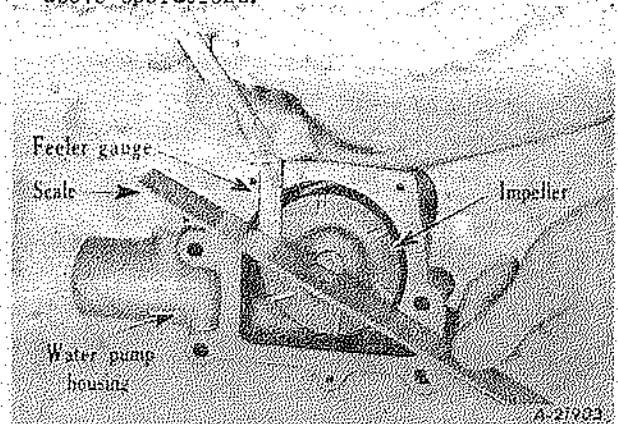

Fig. 32
4. Mount assembly in press. Press impeller on rear end of shaft. Place a straight edge across the back of the water pump housing and check the clearance between the straight edge and impeller. There should be about .025" clearance (Fig. 32).